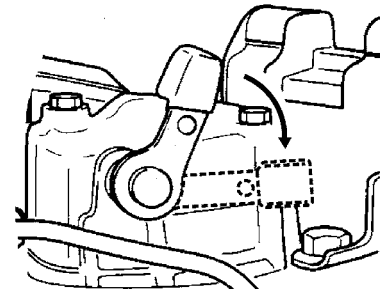

Figure 17. Decompression Lever
4. Push down decompression lever (Figure 17) and release.